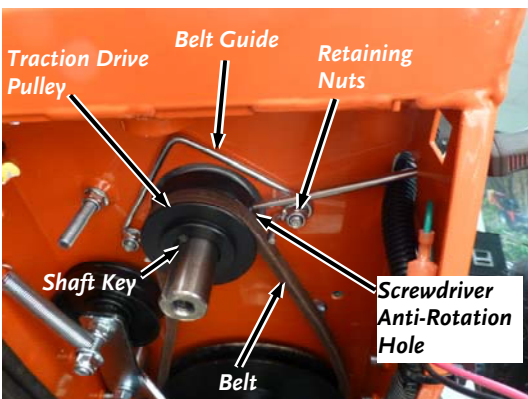

Figure 30
8. Remove the nuts retaining the belt guide with a 1/2" socket (**Figure 30**).
- The belt is on the inside of the belt guides (**Figure 30**).